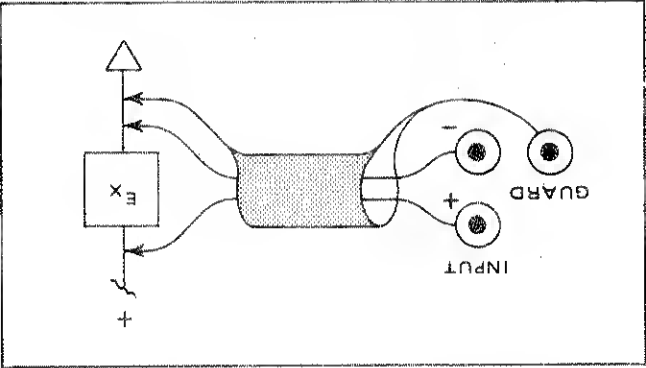

Figure 2.6 - Basic Voltage Measurement Connections
2.25 An ac or dc voltage measurement connection recommended to minimize the effects of noise requires a two-conductor shielded cable connected as shown in figure 2.6.